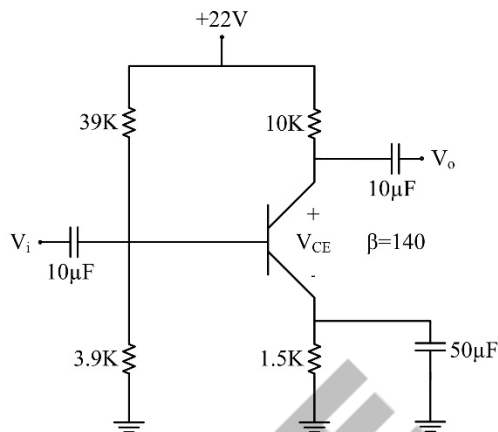

Fig. 2.34: Circuit diagram
1. Determine the dc bias voltage  $V_{CE}$  and the current  $I_C$  for the voltage-divider configuration of Fig. 2.34.